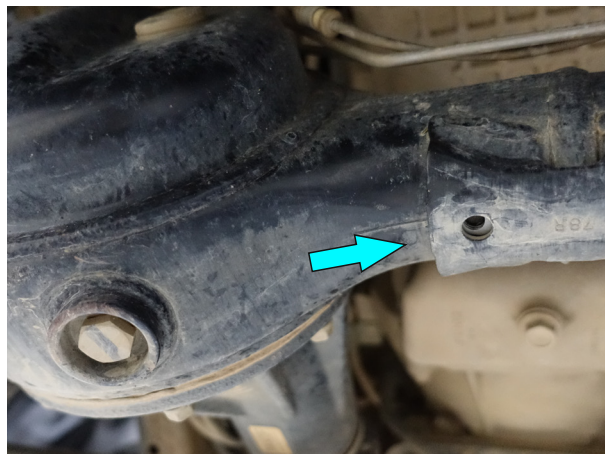

Fig. 2
1. Install insert nut M8 (item E), as shown in fig. 2.